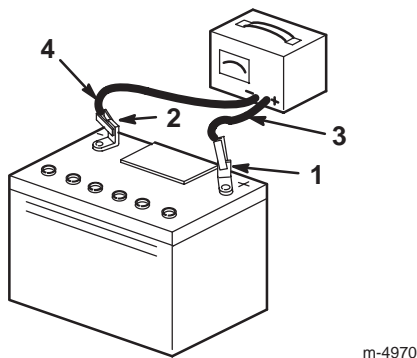

Figure 20
- Disconnect the charger leads from the battery posts (Fig. 20).